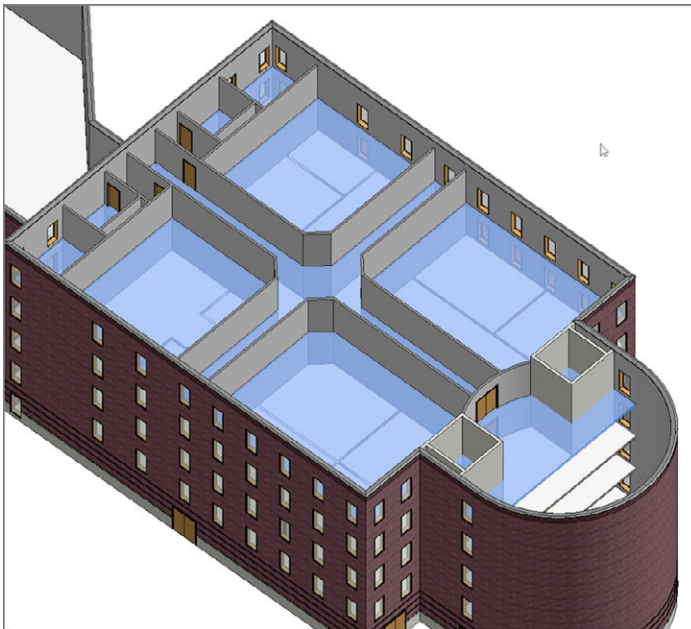

FIGURE 6.34: The fifth floor is now cutting the walls.
1. After the floors have been pasted, select the fifth-level floor, as shown in Figure 6.34.
5. Click Yes to cut the overlapping volume out of the walls. Figure 6.34 shows that the walls are now being cut by the slab.